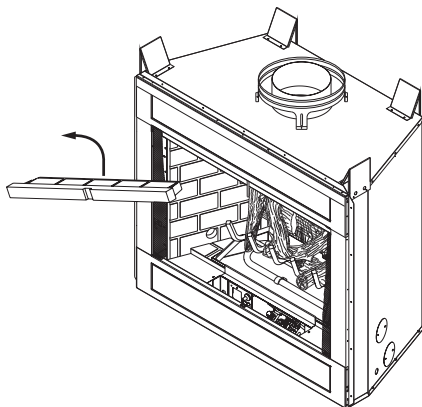

Figure 13 - Removing Front Refractory Access Panel
1. Remove front refractory access panel by lifting up and angling out of firebox opening (see Figure 13).
1. Remove front refractory access panel by lifting up and angling out of firebox opening (see Figure 13, page 11) to expose controls.